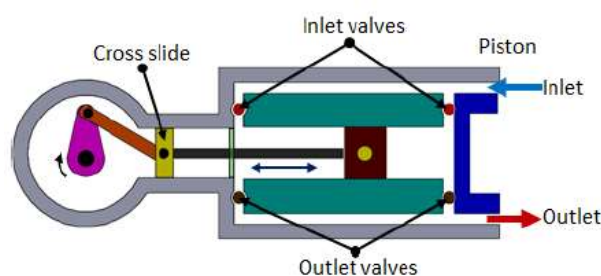

Fig.4.2 Double Acting Compressor
- ▶ The pulsation of air can be reduced by using double acting compressor as shown in *Fig.4.2*. It has two sets of valves and a crosshead.
- ▶ A connecting rod transforms the rotary motion of the crankshaft into the reciprocating motion of piston in the cylinder. The schematic diagram of a single cylinder compressor is *Fig.4.2*